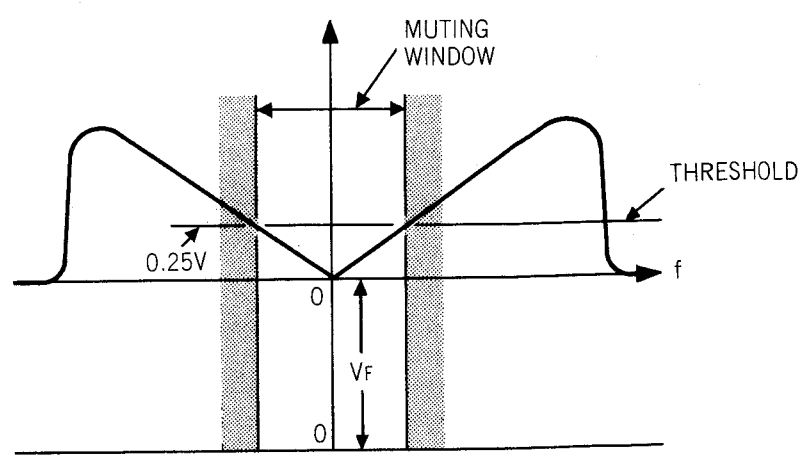

Figure 4. Muting Window
The DC output voltages are led to the "optimum tuning point detecting circuit" input pins ⑧ and ⑨, respectively, of the muting system IC (H302). The output of the "optimum tuning point detecting circuit" is fed through the "AND circuit" to the base of the muting driving transistor Q19. If the DC voltage applied to the muting system IC (H302) pin ⑧ or ⑨ becomes higher than 0.25V, Q19 is turned off, which turns Q23 and Q22 on for muting operation (see Fig. 4).